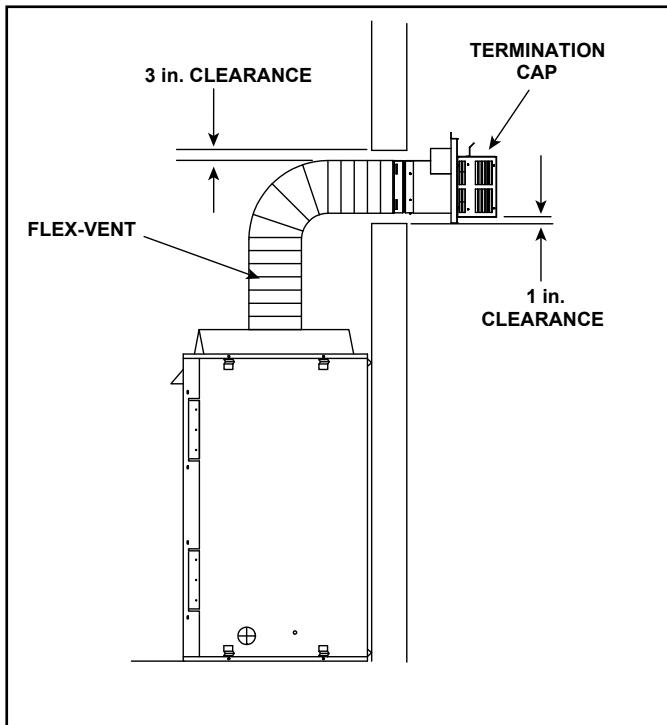

Figure 4.9
A support is required at each change in venting direction, and in any location where it is necessary to maintain the necessary clearance to combustibles. A simple "up and out" installation (Figure 4.9) requires only enough support to maintain the necessary clearance to combustibles. However, the vent attachment point and the firestop location are considered to be supports.
**Note:** There MUST be a 25% reduction in total H when using flex vent except when using the simple up and out installation. See Figure 4.9.